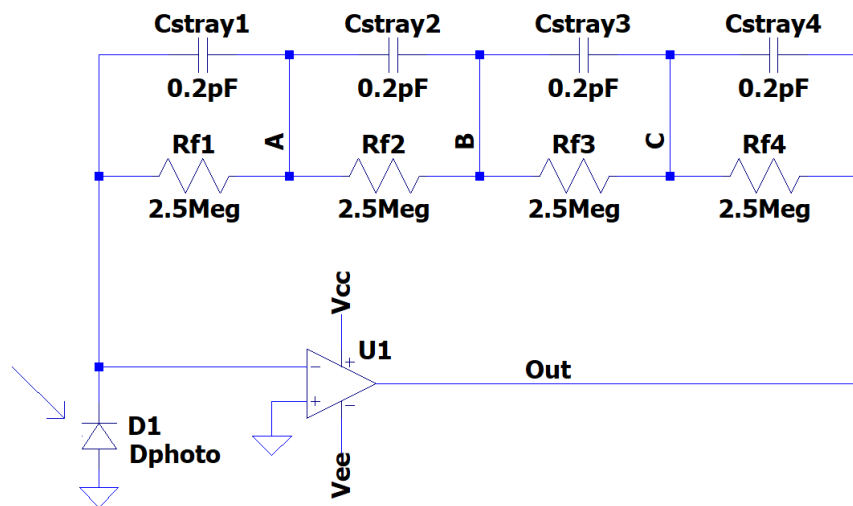

Figure 2: High-Gain TIA with Four Series Resistors
1. Reduce the Parasitic Capacitor Value: The first approach to increase the bandwidth of a TIA is to use multiple feedback resistors in series. For example, if an 0805 resistor has a parasitic capacitance of approximately 200fF, and if the value of the feedback resistor is 10M Ω , four 2.5M Ω resistors connected in series will yield a 10M Ω feedback resistance (see Figure 2). Each resistor will have a similar 200fF stray capacitor and since they are in series with each other, the total equivalent capacitor value across the equivalent 10M Ω resistor is 50fF. This new RC network yields a -3dB corner frequency of approximately 318kHz which is four times greater than the one with a single 10M Ω resistor.